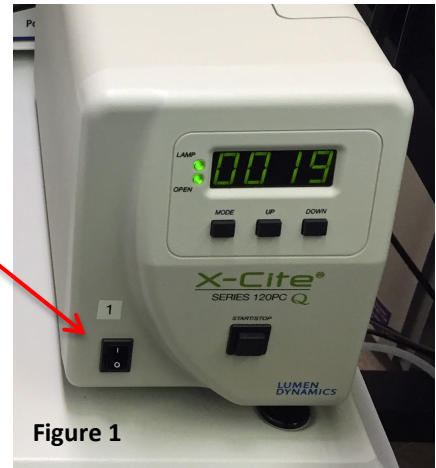

Figure 1
1. X-cite: If you are going to view fluorescence through the eyepieces, turn on the X-cite lamp (1). The box is to the left of the microscope table (figure 1). The X-cite lamp replaces the mercury bulb, and should be treated similarly. When it is switched off, it cannot be reignited until it cools (~20–30 min).